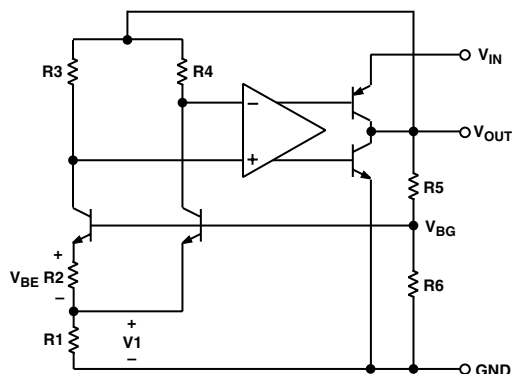

Figure 8. Simplified Schematic
The AD1582/AD1583/AD1584/AD1585 family uses the “bandgap” concept to produce stable, low temperature coefficient voltage references suitable for high accuracy data acquisition components and systems. This family of precision references makes use of the underlying temperature characteristics of a silicon transistor’s base-emitter voltage in the forward biased operating region. Under this condition, all such transistors have a  $-2 \text{ mV}/^\circ\text{C}$  temperature coefficient (TC) and a  $V_{BE}$  that, when extrapolated to absolute zero,  $0^\circ\text{K}$ , (with collector current proportional to absolute temperature) approximates the silicon bandgap voltage. By summing a voltage that has an equal and opposite temperature coefficient of  $+2 \text{ mV}/^\circ\text{C}$  with the  $V_{BE}$  of a forward-biased transistor, a zero TC reference can be developed. In the AD1582/AD1583/AD1584/AD1585 simplified circuit diagram shown in Figure 8, such a compensating voltage,  $V_1$ , is derived by driving two transistors at different current densities and amplifying the resultant  $V_{BE}$  difference ( $\Delta V_{BE}$ —which has a positive TC). The sum ( $V_{BG}$ ) of  $V_{BE}$  and  $V_1$  is then buffered and amplified to produce stable reference voltage outputs of 2.5 V, 3 V, 4.096 V, and 5 V.